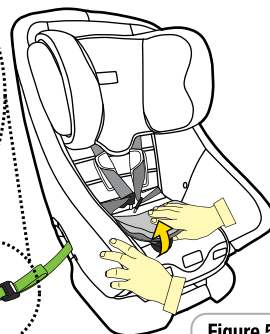

Figure 5
**Step 7:** Fold the padding and cover back in place (refer Figure 5).